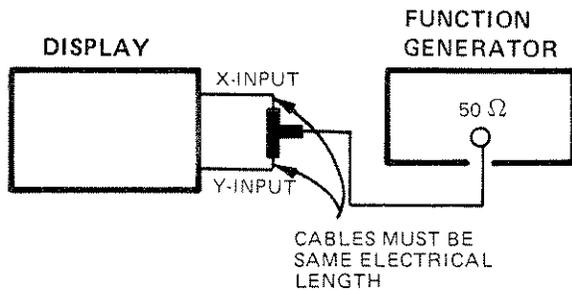

Figure 4-3. Phase-shift Test Setup
- a. Connect equipment as shown in figure 4-3.